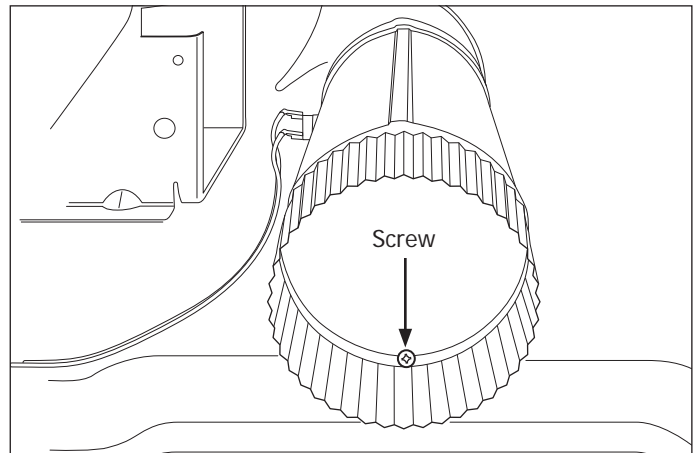

Figure 4-30.
3. Using a #2 square bit screwdriver, extract the screw securing exhaust tube to the unit base. Pull tube out of blower assembly outlet. (See Figure 4-30)